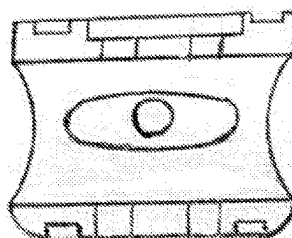

Figure 5
**[0007]** FIG. 5: 5A Displays perspectives of other half of the extension lock chamber. Includes top view, inside view, side view, bottom view, and 3D view. 5B displays a perspective of the spring used in bottom backside of the extension lock and ratchet joint push button lock.